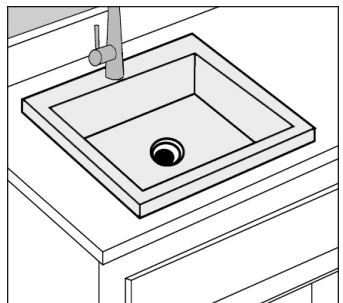

Figure 6
10. After the sink is positioned and securely in place, place plumber's putty around the underside of the faucet body or its mounting plate and install it into the sink (Figure 6).